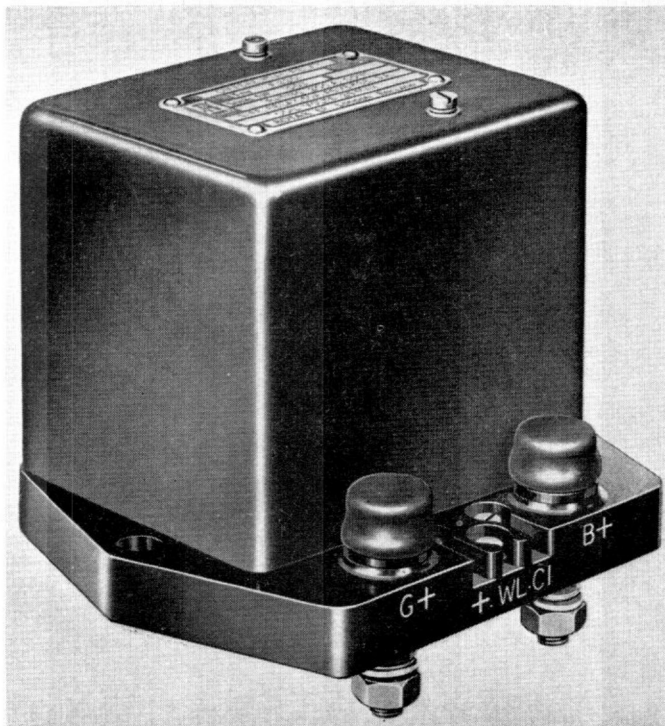

Fig. 1. Typical cut-out in F2200 series
3. A general view of a typical cut-out in the F2200 series is shown in fig. 1, though the terminal arrangements may vary from type to type and do not necessarily conform to those illustrated. The units are built on the moulded Bakelite base shown, and with the cover illustrated, though in certain instances these are varied slightly to accommodate additional terminals.